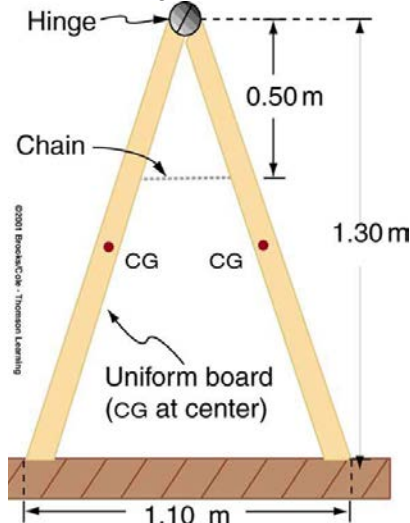

Figure 9.35 A sandwich board advertising sign demonstrates tension.
- A sandwich board advertising sign is constructed as shown in **Figure 9.35**. The sign's mass is 8.00 kg. (a) Calculate the tension in the chain